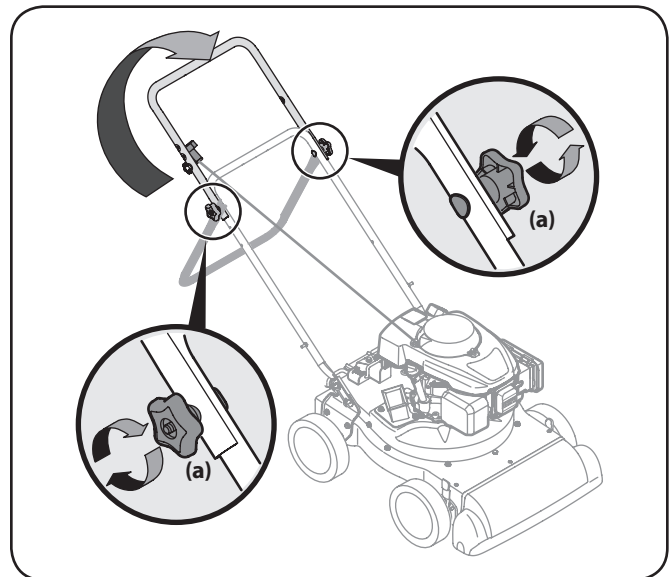

Figure 3-2
2. Unfold the upper handle until it aligns with lower handle. See Figure 3-2. Make sure the rope guide is on the right side of upper handle.
3. Secure the two handles by tightening the star knobs (a) (carriage bolts must be seated properly into the handle). See Figure 3-2.